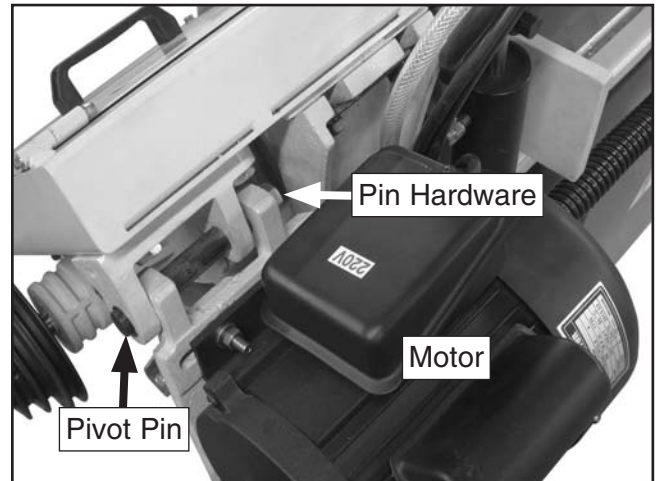

Figure 12. Mounting motor.
4. Remove the motor pivot pin from the saw bow (See **Figure 12** for location).
6. Secure the motor pivot pin with the hardware removed in **Step 4** (See **Figure 12**).